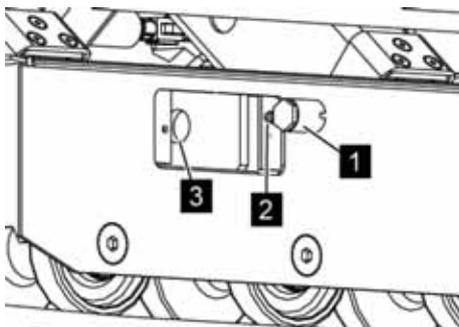

Fig. 128: Put back the slide coupling
4. ➤ Push the slide coupling (Fig. 128/1) with the grease nipple (Fig. 128/2) in front onto the grease tension cylinder (Fig. 128/3).